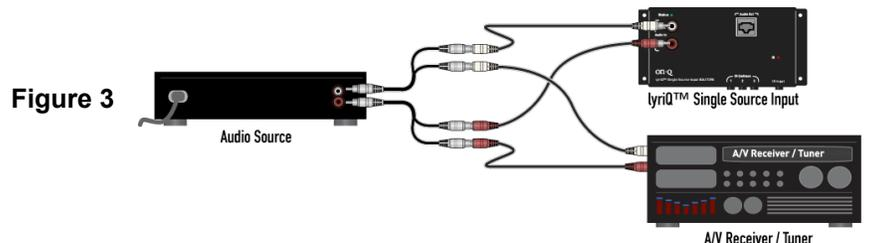

Figure 3
- If an audio component is being shared with an A/V receiver and the single source system, and doesn't have secondary fixed stereo line level outputs, use two Y-cables to split that component's output signal so it can be sent directly into the set of RCA jacks on the Single Source Input and also to the A/V receiver (see **Figure 3**).
NOTE: Connection to the source itself is recommended. If the source doesn't have two outputs, two "Y" cables can be used to share the source with the lyriQ™ system and an A/V receiver (see Figure 3). If the output of a receiver / preamplifier is to be used as well, ensure that a fixed output is used - such as a tape output - not a variable one such as a pre-amplifier output. If this is to be shared, two "Y" cables can again be utilized.